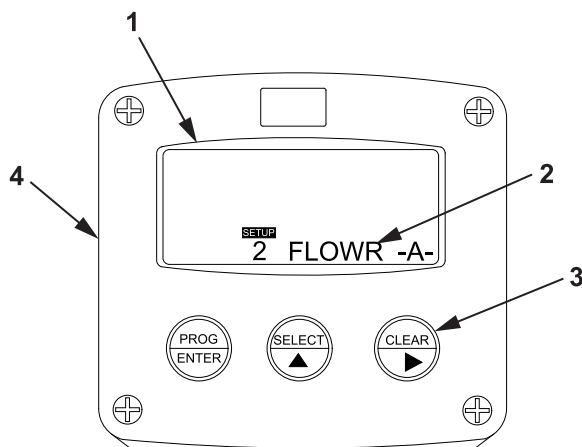

Figure 17. FLOWR A Display.
- p. Verify that FLOWR A (Figure 17, Item 2) appears on the display screen (Figure 17, Item 1).
- q. Press the CLEAR key (Figure 17, Item 3) on the tank volume meter monitor (Figure 17, Item 4).